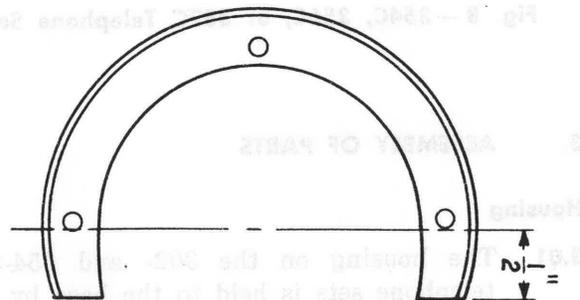

Fig. 13 - Modified 59A Dial Adapter
3.05 When a 59A dial adapter is used with a 6-type dial, it may be necessary to alter the dial adapter. Modify to provide clearance without bending between the plastic cover on the dial and the dial adapter. Cut the adapter to the approximate dimensions shown in Fig. 13. The adapter may then be used interchangeably with the 5- or 6-type dial.